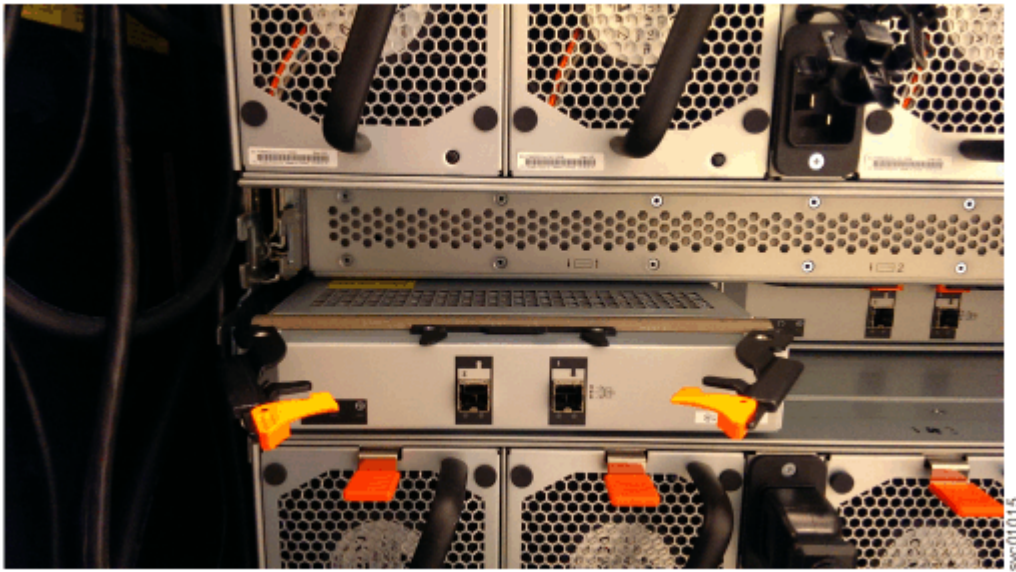

Figure 119. Removing the expansion canister
5. Rotate the handles on the expansion canister outward, as shown in Figure 119 on page 101.